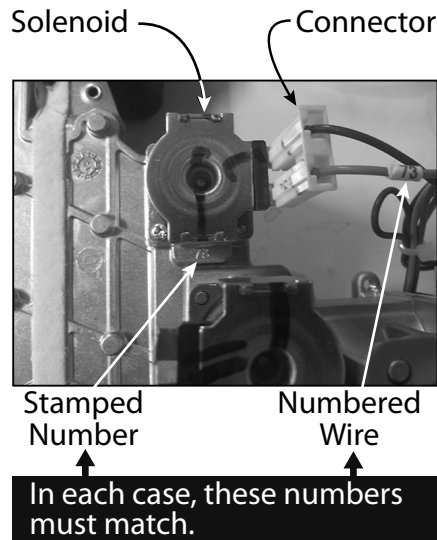

Figure 57. Gas Valve Wiring
- Each set of wires has a tag with a number on it. Each solenoid valve has a number stamped next to it. During installation, each wire number must match its solenoid valve number. See Figure 57.